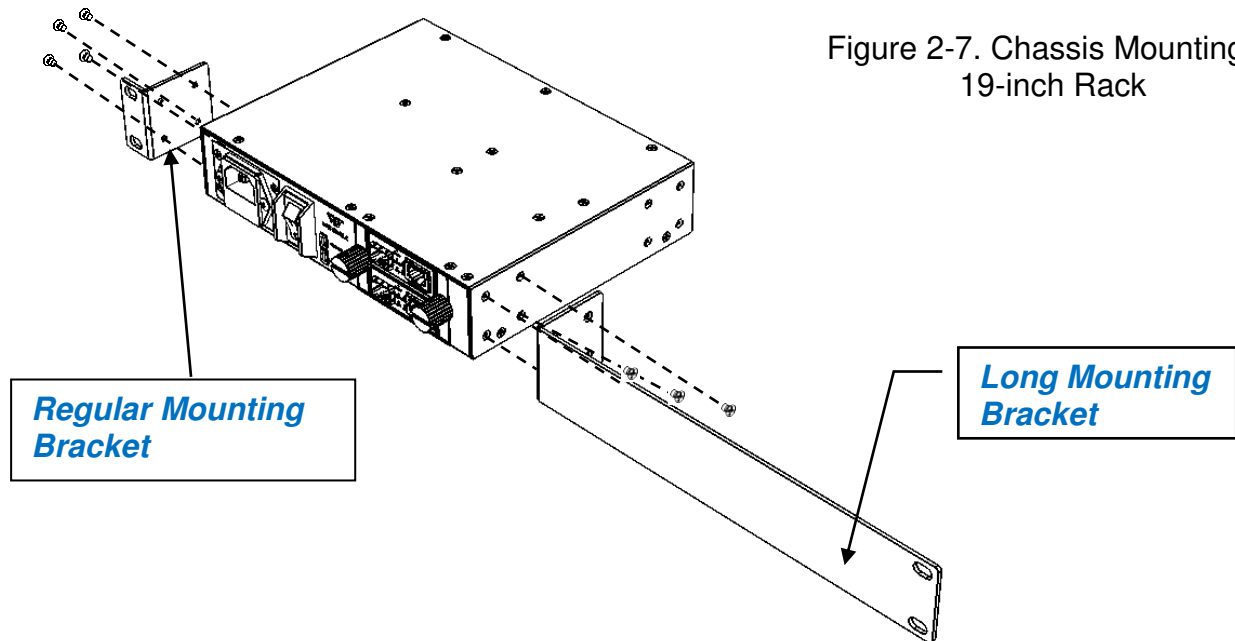

Figure 2-7. Chassis Mounting in 19-inch Rack
- 1.1. Attach the supplied regular mounting bracket to one side of the chassis that you would like to install in the rack. (See Figure 2-7)
- 1.2. Attach the supplied long mounting bracket to the other side of the chassis. (See Figure 2-7)
**Step 2.** Insert the screws provided in the rack-mount kit through each bracket and into the bracket mounting holes in the chassis. (See Figure 2-7)